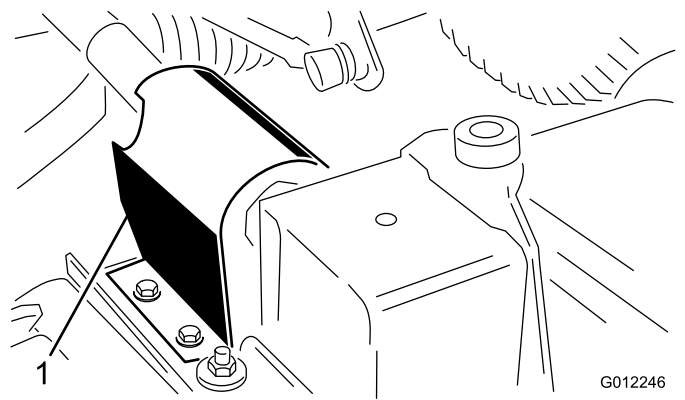

Figure 8
2. Remove the 2 self-tapping screws securing the PTO shield to the top of the cutting unit gear box mounting plate and remove the shield (Figure 8).
5. Secure the ball joint mount to the castor arm with (2) capscrews (7/16 x 3 inches), flat washers (7/16 inches), and flange nuts (7/16 inches).